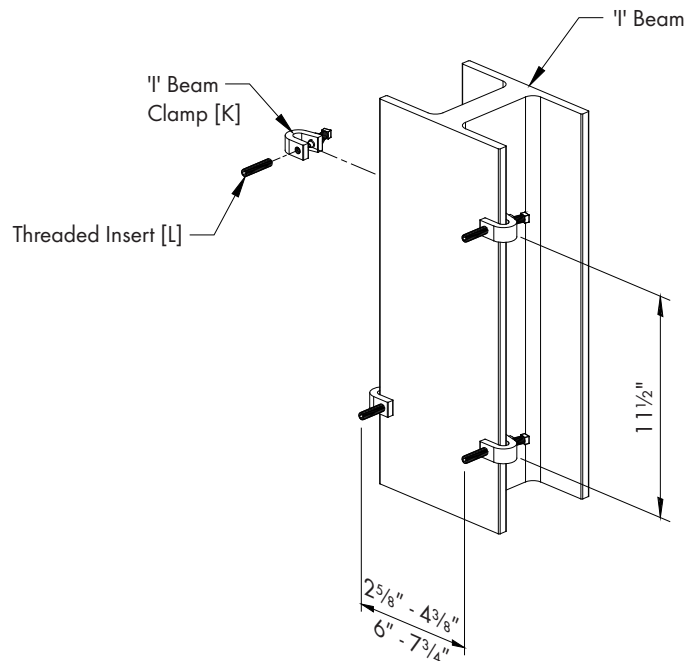

Figure 4
Thread Threaded Insert [L] into 'I' Beam Clamp [K] so it is flush on the inside of clamp. Attach (4) 'I' Beam Clamps [K] to beam by tightening square headed bolt and then tightening the jamb nut up to the clamp. 'I' Beam Clamps should be spaced 1 1/2" center-to-center vertically. See Figure 4.